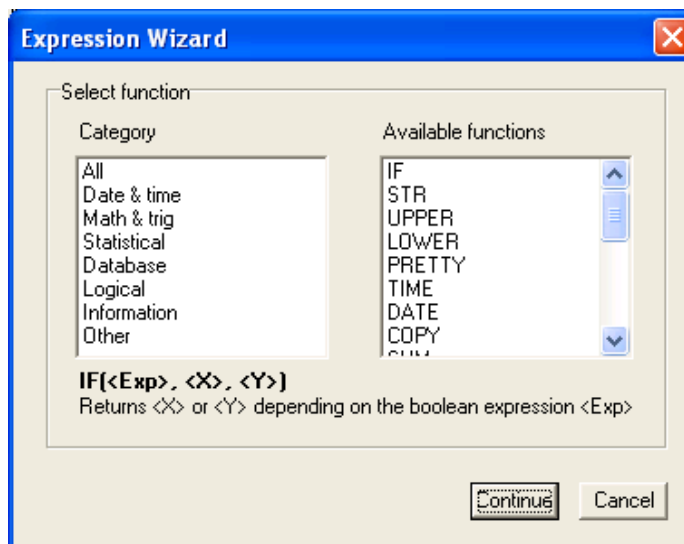

Figure 24 - Select Function Window
10. Click on the **Function** button to go to the **Select function** (Figure 24) window. After selecting the required function, click on the **Continue** button to close the **Select function** window and return to the **Expression Wizard**.